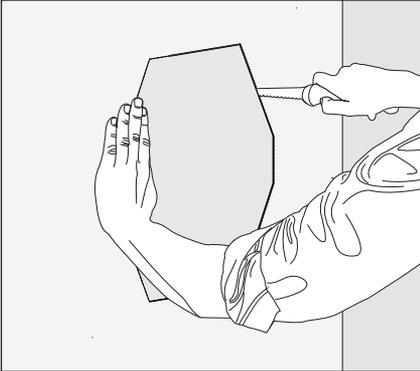

Fig. 3c
3) Cut a hole as indicated (Fig. 3c).